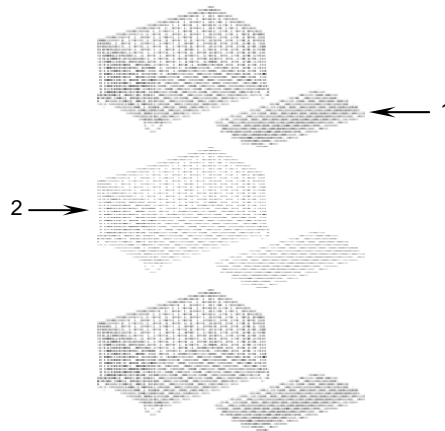

Figure 43. Disassembling the Storage Rack Assemblies.
- a. Remove the shelves (front cover) **(Figure 43, Item 1)** from the storage rack assemblies.
- b. Disassemble the stacked rack units **(Figure 43, Item 2)**.